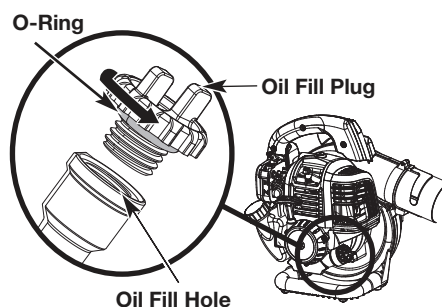

Fig. 9
NOTE: Make sure the O-ring is in place on the oil fill plug (Fig. 9).
1. Clean the area around the oil fill plug (Fig. 9) to prevent debris from entering the oil fill hole.